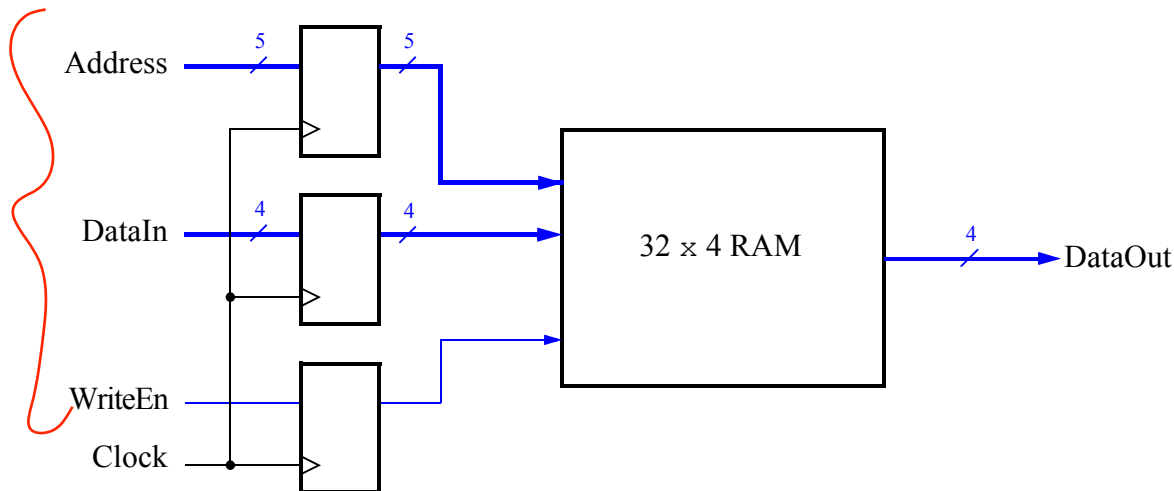

Figure 1: Schematic of the  $32 \times 4$  embedded memory module.
The memory module we would like to create is shown in Figure 1. It consists of a memory block, an address register, a data register and a control register. You can see that the address, input data, and the write enable control signal are all stored in registers before being presented to the memory array. Using the registers means that the DataOut value will be stable for one clock cycle and allows the inputs to be
8. Examine the newly created Verilog file. Observe that it declares a module with the required ports as shown in Figure 1. You can now instantiate the module into any design. **(PRELAB)**